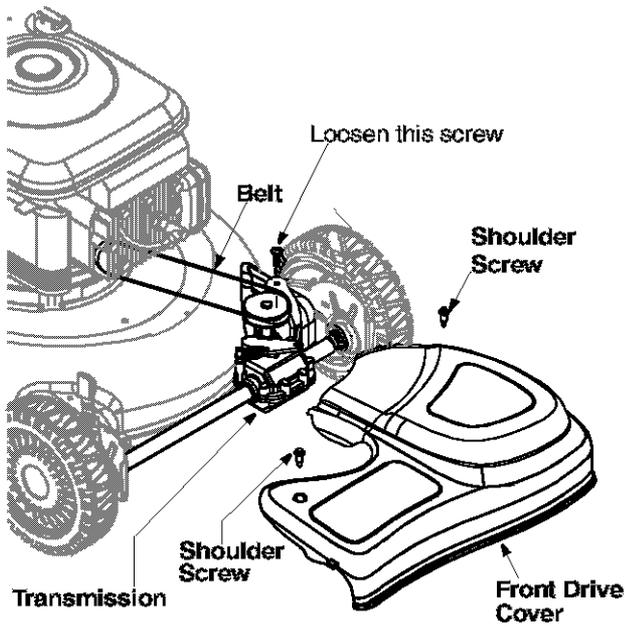

Figure 14
- Remove two shoulder screws securing the front drive cover to the mower deck. See Figure 14 .
- Using a torx wrench, loosen the screw holding the belt tension spring to the transmission. See Figure 14 . Do not remove the screw completely. As you loosen the screw, the tension on the belt will be released.